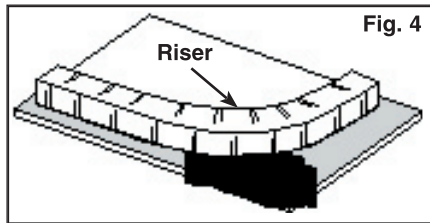

Fig. 4
- Place edge of Riser against inside edge of Position Guide as shown (Fig. 4). Allow glue to dry four hours.